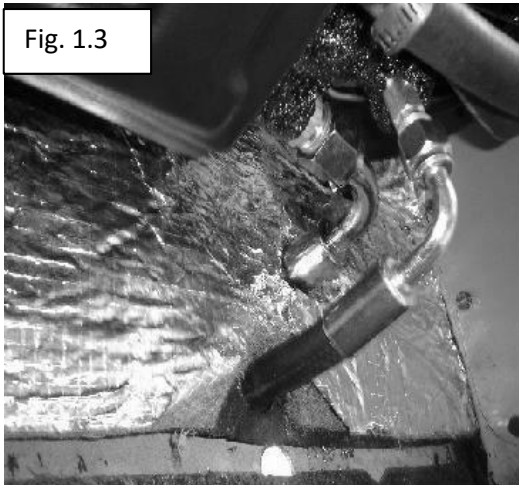

Fig. 1.3
- 8) Prior to installing the a/c lines find a location in the firewall to run the hoses through. Select according to which side of the unit the fittings are on and which side of the engine the compressor is on. Be sure to use the grommets to protect the hoses when running them through the firewall. The grommets will require a 1-1/4" hole, unless it is a large single grommet for both hoses. Our recommendation for the firewall holes is as follows: Mount the unit in its mounting location. Take the # 6 (5/16" hose) and the # 10 (1/2" hose) and push a 90 degree fitting into each. Attach the fittings (finger tight) to the evaporator. If the hoses will run straight back to the firewall without any kinks make a small mark where the hose meets the firewall, Figure 1.3. That will be the location for the grommet. If the hose is kinked or tight try a straight fitting on the evaporator connection. We do carry many fittings if a 45 or 180 degree is needed please contact us.